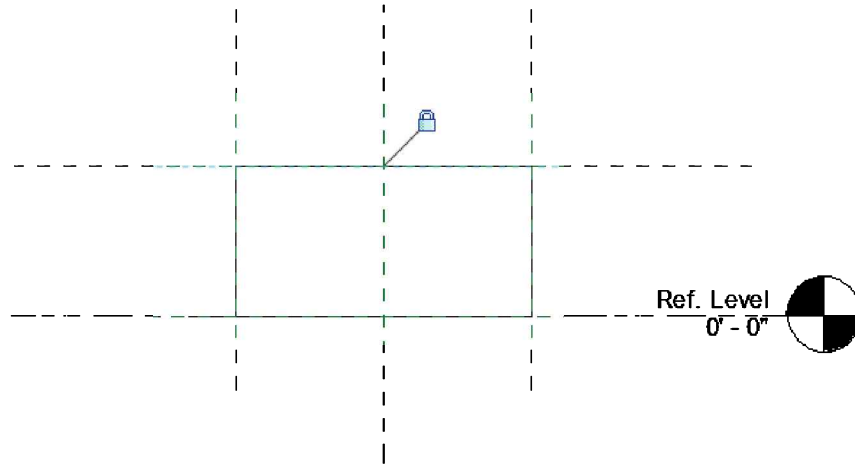

FIGURE 18-2.14 Aligning 3D geometry to reference planes
25. **Align** and **Lock** the top of the box, which is 1'-0" high, to the top *Reference Plane* (Figure 18-2.14).